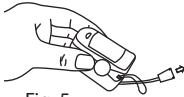

Fig. 5
1. Thread thinner end of the hang lace through the hanging hole (fig. 5).